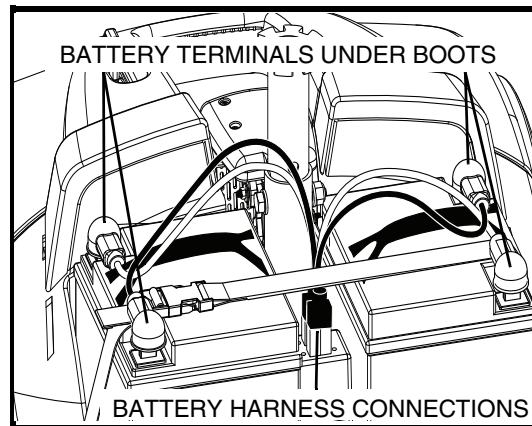

Figure 11. Battery Removal/Installation
3. Disconnect the battery harnesses by pulling them straight up. See figure 11.